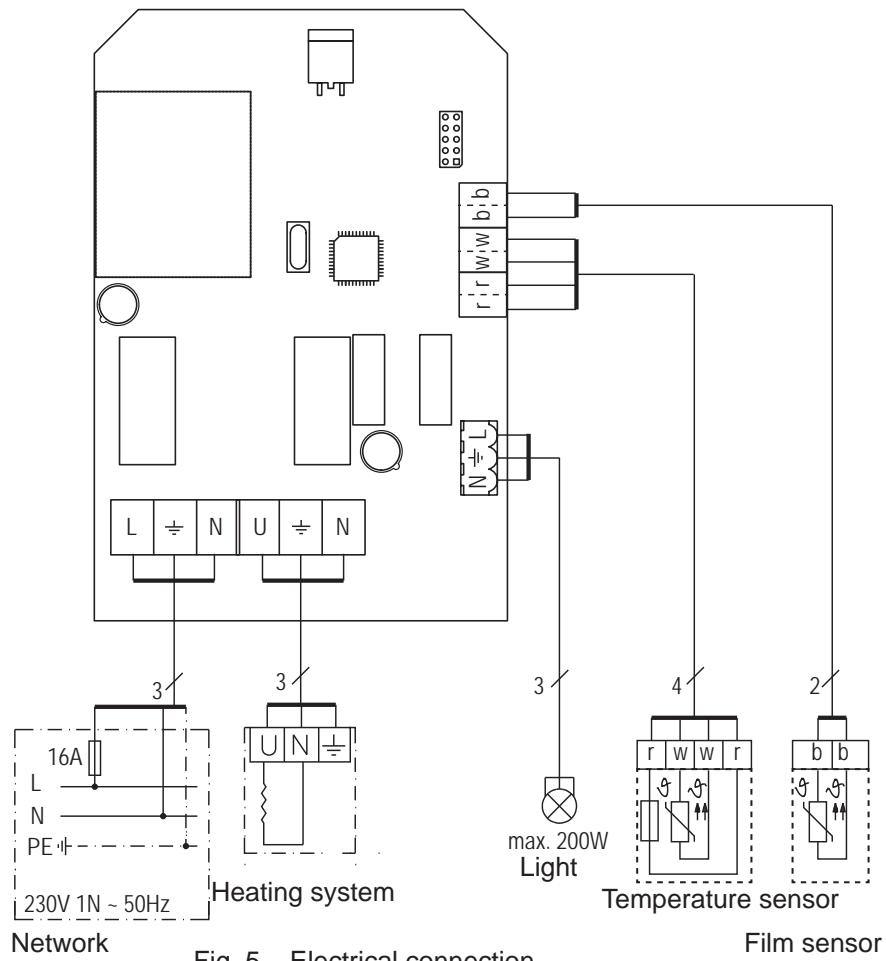

Fig. 5 – Electrical connection
- Connect the cables to the control unit in accordance with Figure 5.